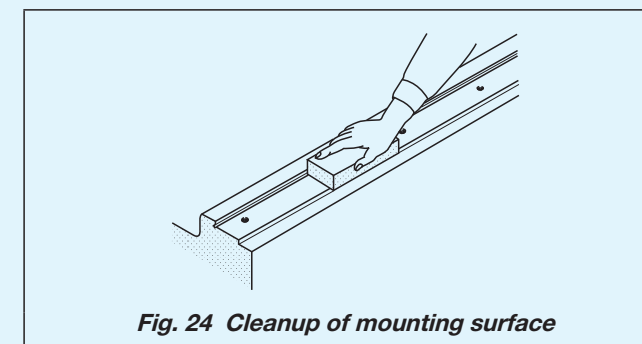

Fig. 24 Cleanup of mounting surface
- Remove burrs and blemishes by using oil-stone, etc. from reference mounting surface and mounting surface of the machine or the device to which Linear Way is mounted and wipe off with clean cloth. (see Fig. 24)